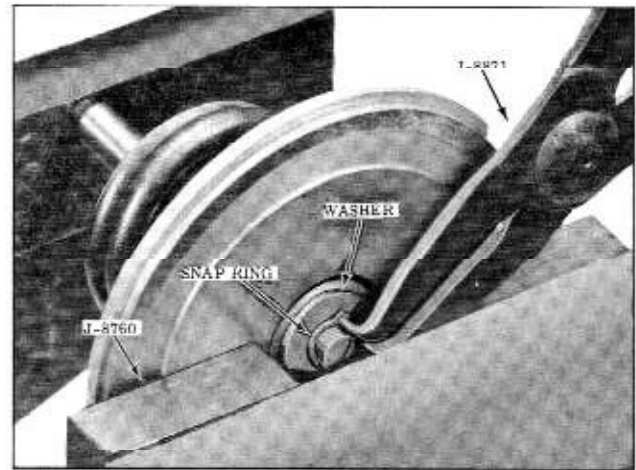

Fig. 3-81 Servo Disassembly
1. Position Speedometer Gear Puller Adapter J-8760 against the servo piston and place the piston assembly and spacer between the jaws of a bench vise. (Fig. 3-81)